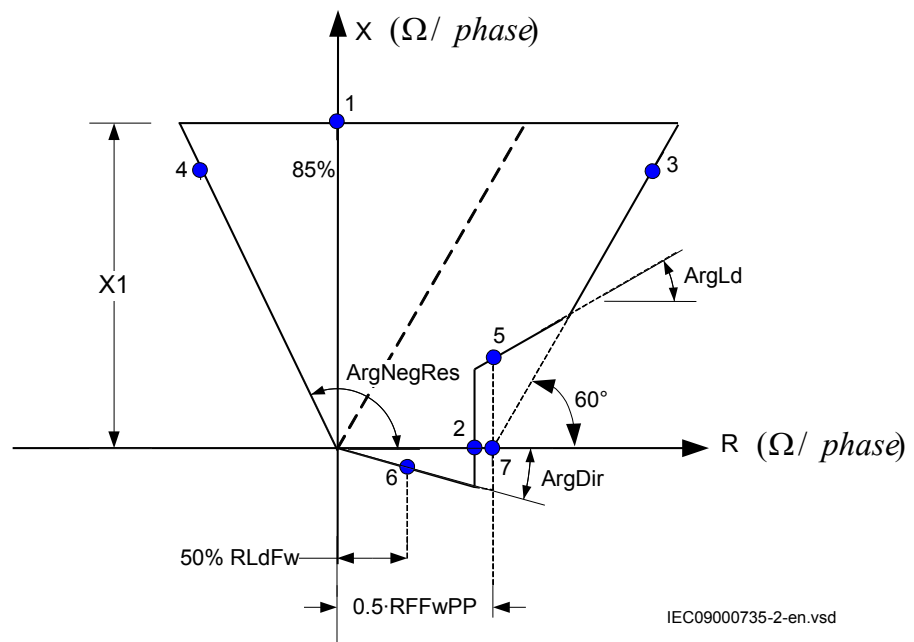

Figure 12: Operating characteristic for phase selection function, forward direction phase-to-phase faults
Table 5 is used together with figure 12.
4. Repeat steps 1 to 3 to find the operate value for the phase-to-phase fault in L1 — L2 according to figure 12 and table 5.